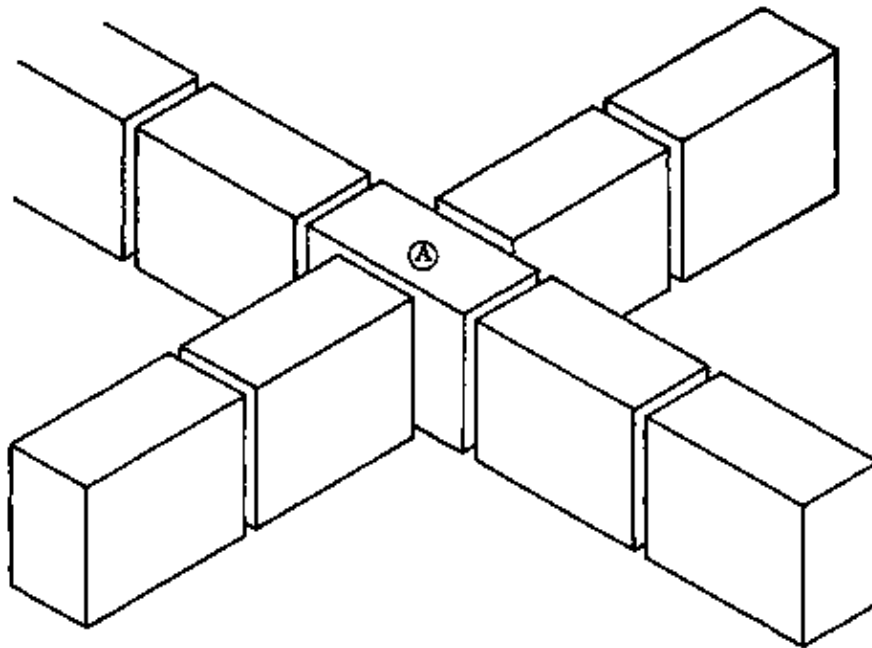

Fig. 1
Fig. 1 shows the bond for all courses with an odd number (1st, 3rd, 5th, etc.). These consist of full blocks only. The through block (A) is set exactly in the middle of the crossed wall.